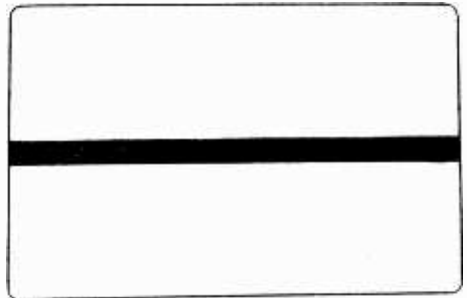

FIG. 11. Appearance of Screen when Vertical Sweep has Failed.
1. Complete loss of vertical sweep. Disappearance of vertical sweep is indicated in Fig. 11. This trouble symptom appears when there is no vertical signal applied to the yoke winding or the signal cannot deflect the beam vertically due to a faulty yoke. Analyzing the symptom and using effect-to-cause reasoning, the appearance of the horizontal line is a positive indication that at least both the horizontal deflection and high voltage circuits are operating normally.